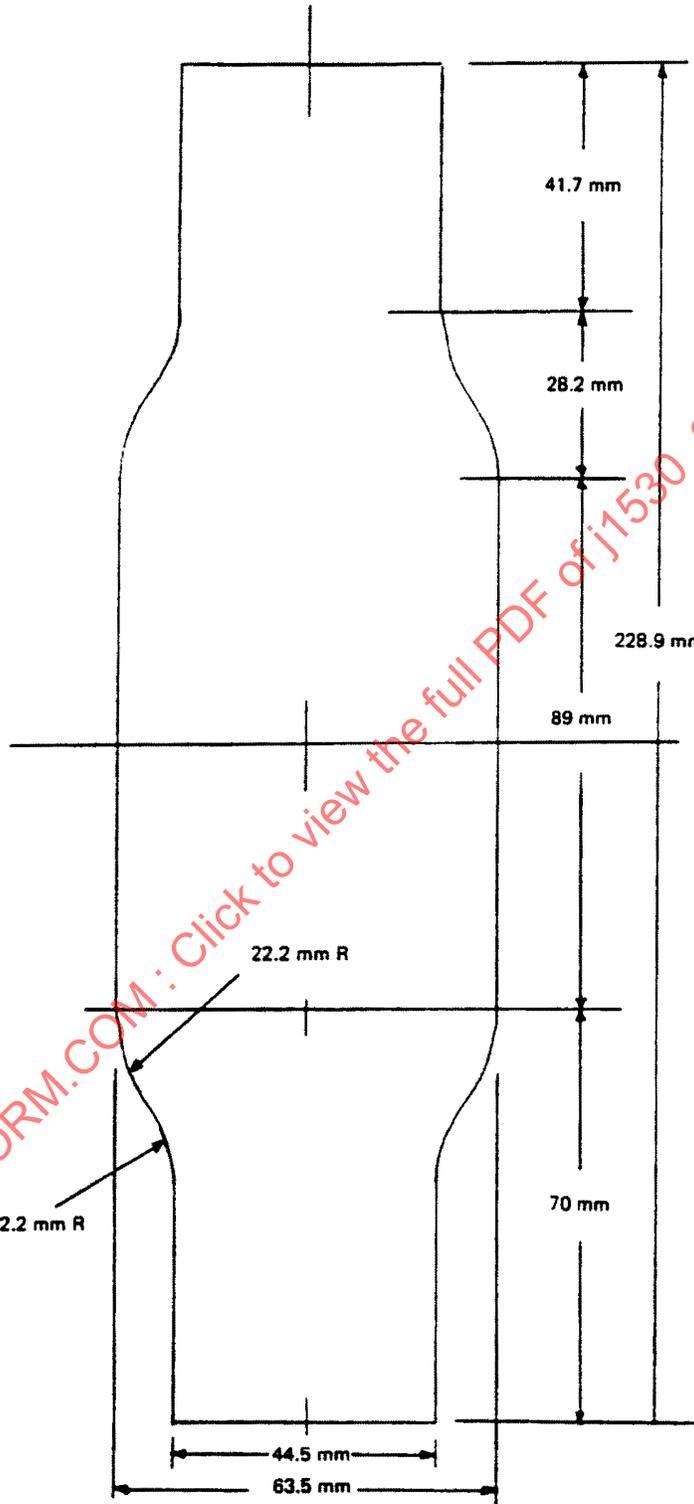

FIGURE 1—TEST SPECIMEN TEMPLATE
- 5.2.2 Test specimens are prepared to the template (Figure 1) dimension in both the machine and cross machine directions.